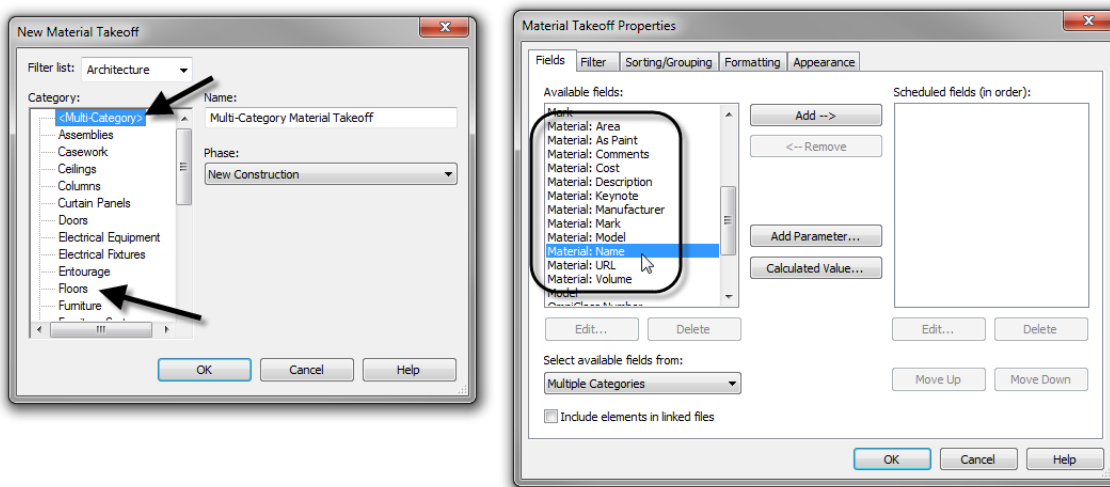

Figure 15
**Finish schedules**—As noted, use a Material Takeoff for a Finish Schedule. When you first create it, decide if you want a single material list for the entire project, or want separate lists for Walls and Floors. If you want a single list, use the <Multi-Category> option when you create the Material Takeoff. If you wish to have a separate Wall or Floor finish list, you can choose the appropriate category instead (see Figure 15).